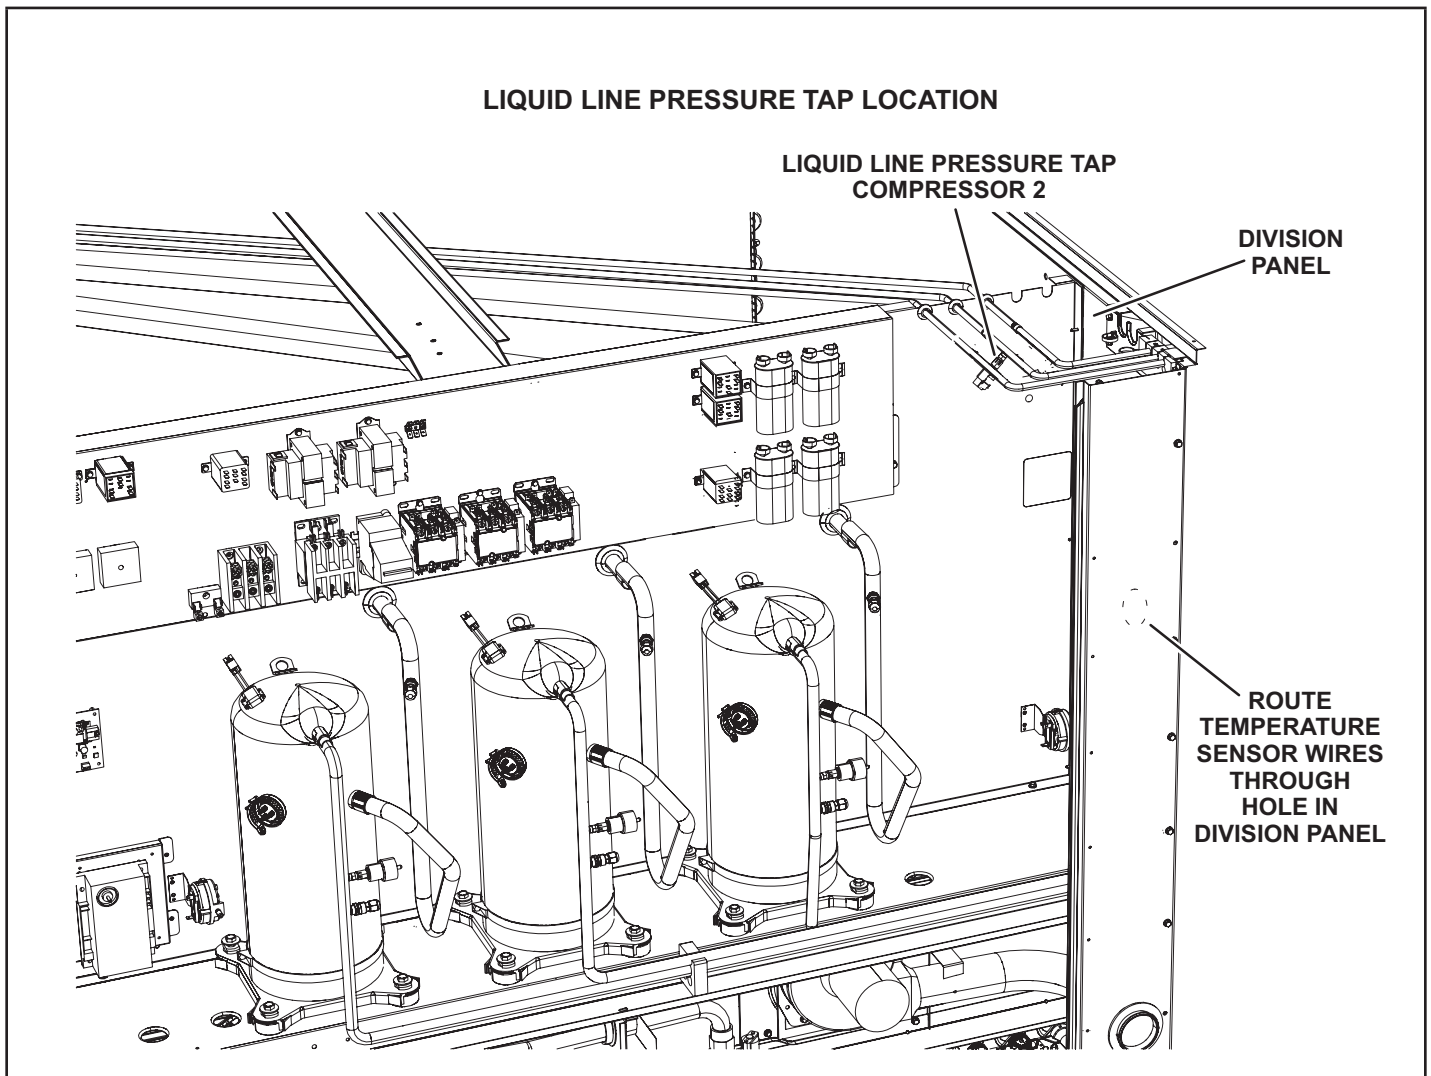

FIGURE 2
- 6 - Install the pressure transducer on compressor 2. liquid line pressure tap as shown in FIGURE 2.
- 1 - Route temperature switch wires through the division panel between the compressor and outdoor coil sections. See FIGURE 2.